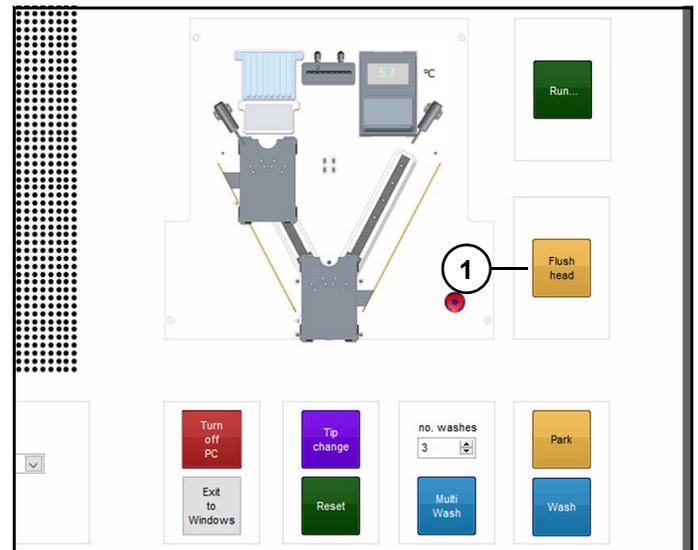

Figure 3
8. Click "Flush head" (1) (Figure 3).